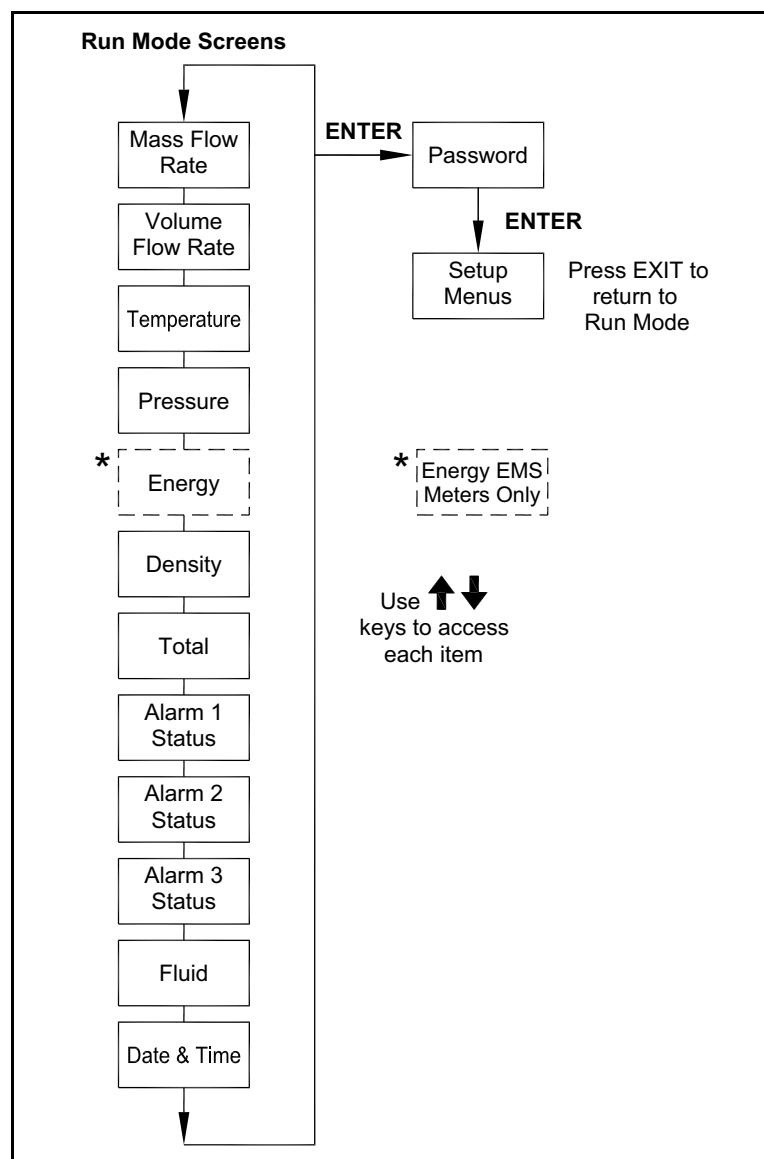

Figure 53: Run Mode Screens
3. Run Mode displays flow information based on system settings. As a result, some of the screens shown in *Figure 53* below may not be displayed. Press the \uparrow \downarrow arrow keys to view the Run Mode screens.